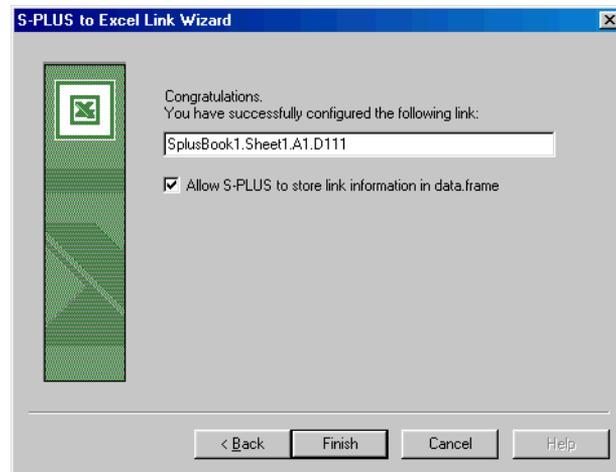

Figure 10.9: The final page of the wizard.
6. Figure 10.9 shows the last page of the wizard. S-PLUS automatically generates a default name of the form **SplusBook1.Sheet1.A1.D111** for the link. If you prefer, you can type a different name for the new link in the text box.